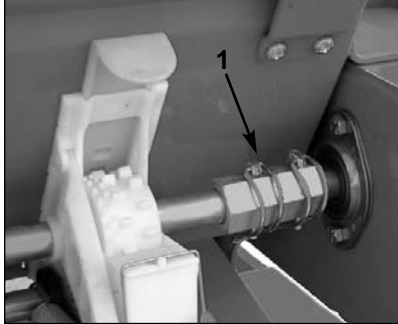

Fig 12
The fine seed metering wheel used in Duncan Drills is especially well suited for sowing small seeds such as rape. Due to the intensive action caused by the agitator the seeds can adhere to each other, or be damaged, causing irregular sowing/germination. **Therefore it is recommended that when sowing small seeds, especially oil seeds and thin shelled seeds, the drive to the agitator is disconnected.** To do this remove the lynch pin (1) (Fig 12).